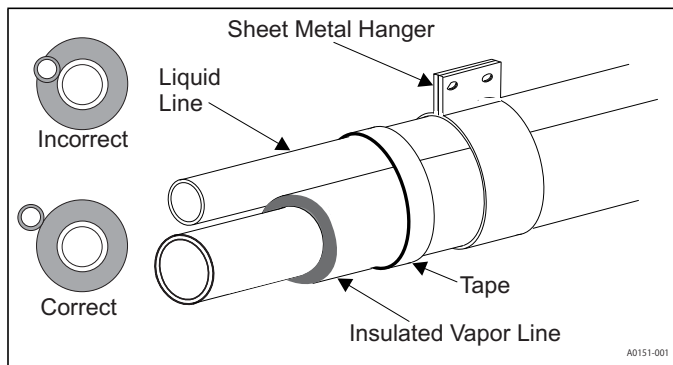

FIGURE 3: Installation of Vapor Line
4. Tape and suspend the refrigerant lines as shown. DO NOT allow tube metal-to-metal contact. See Figure 3.